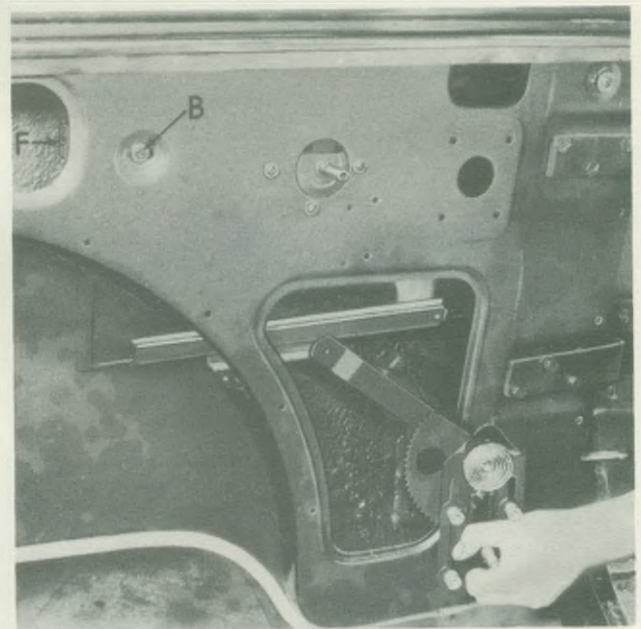

Fig. 11. Removing/refitting drop light regulator mechanism
to inner door panel, disengage the operating arm from the channel at the bottom of the glass and remove mechanism through large lightening hole as shown in Fig. 11.
6. Through the small aperture in the inner door panel, remove the screw marked "F" (in Fig. 11), holding lower end of rear drop light channel to its support bracket. Then remove the bracket itself by withdrawing the screw marked "B" and slide down rear glass channel and out through aperture in wheel arch recess.